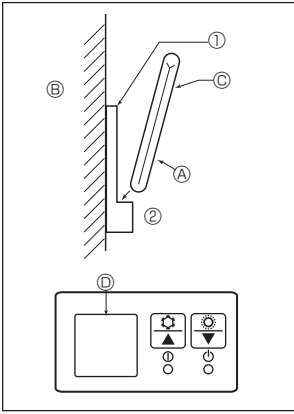
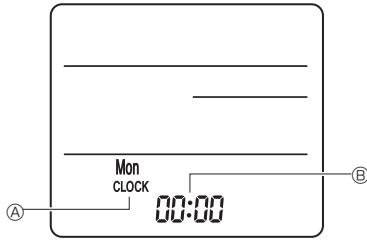

Fig. 6-7
Fig. 6-8
2) Installation method (Fig. 6-7)
- ① Attach the remote controller holder to the desired location using 2 tapping screws.
- ② Place the lower end of the controller into the holder.
3) Setting (Clock setting) (Fig. 6-8)
- ① Insert batteries or press the **CLOCK** button with something sharp.